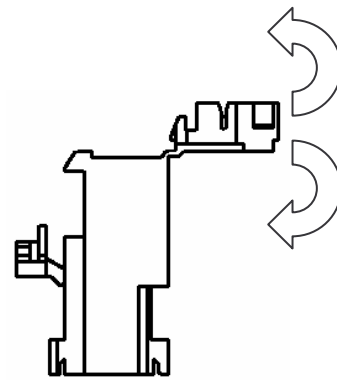

Figure 5
*In order to separate the cover from the plug casing, it is broke off by hand. Kink it in direction of the arrows shown (see figure 5).*